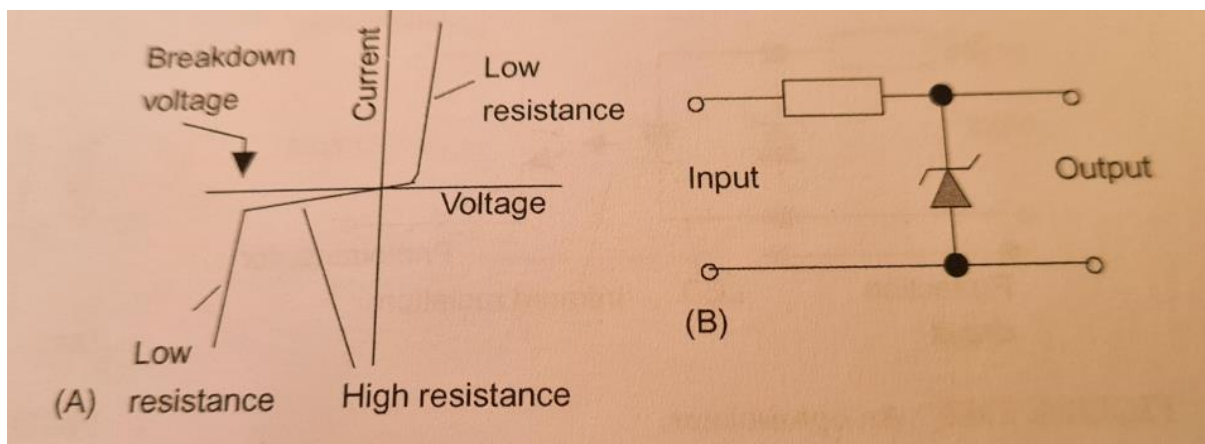

Figure 22 – Zener diode: (A) current voltage relationship, (B) protection circuit, (Bolton, 2015)
v) Protection – A measurement system will ordinarily require features that protect it from high voltages and current. For example, a microprocessor may be damaged from high current or voltage signals from a sensor. This risk can be mitigated by the incorporation of a series resistor and/or fuse within the circuit. A Zener diode circuit (Figure 22) can be used to protect against high voltages and wrong polarity voltages.